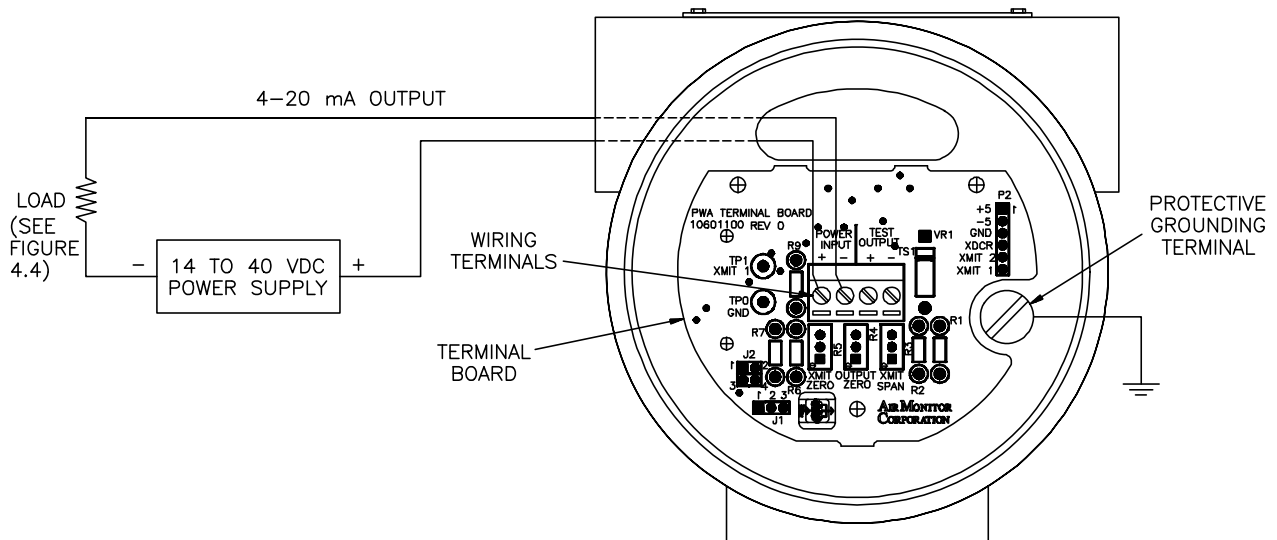

Figure 4.5
The Power/Signal wires should be connected to the terminals labeled **± POWER INPUT** in accordance with Figure 4.5.
1. At the Terminal board, connect DMM, set to read to the nearest 0.001VDC, across test points **TP0 GND** (black) and **TP1 XMIT** (brown). See Figure 4.5.
1. At the Terminal board connect DMM, set to read to the nearest 0.001VDC, across test points **TP0 GND** (black) and **TP1 XMIT 1** (brown). See Figure 4.5.
<p>No output and no display (if so equipped).</p>	<ul style="list-style-type: none"> – Verify input power connections (see Figure 4.5). – Verify input power is present and between 14-40VDC. – Replace Power Supply Board.
<p>Output and display do not change with change in process input.</p>	<ul style="list-style-type: none"> – Verify pressure signal lines are connected correctly. – Verify differential pressure at input fittings. – Verify internal signal tubing was not blown off transducer by excessive pressure (see drawings in Section 9). – Using a DMM set for DC voltage, measure between TP0-GND (black) and pin 4-XDCR of P2 on Terminal Board (see Figure 4.5). With full positive differential pressure applied, DMM should read $0.7 \pm 0.3VDC$. If DMM does not read $0.7 \pm 0.3VDC$, replaced Transducer Board. If DMM reads correctly, measure DC voltage between TP0-GND (black) and TP1-XMIT (brown) on Terminal Board. With full differential pressure still applied, DMM should read $0.7 \pm 0.3VDC$. If DMM does not read $0.7 \pm 0.3VDC$, replace Terminal Board. If DMM reads correctly, measure DC voltage between TP0-GND (black) and Pin 5-XMIT2 of P2 on Terminal Board (see Figure 4.5). With full differential pressure still applied, DMM should read $0.7 \pm 0.3VDC$. If DMM does not read $0.7 \pm 0.3VDC$, replace Power Supply Board. If DMM reads correctly, replace Terminal Board.